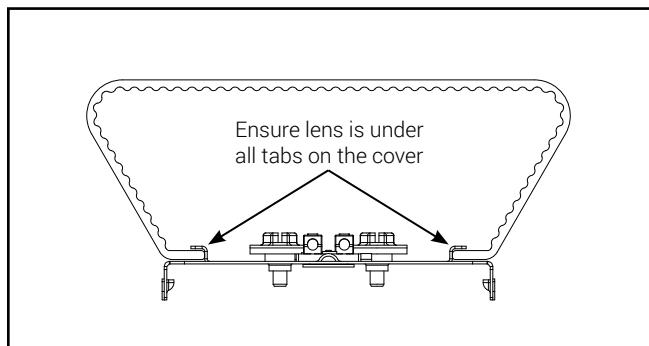

Figure 5.
6. Install new lens by sliding lens under all tabs on the cover to ensure lens is retained properly (Figure 5).